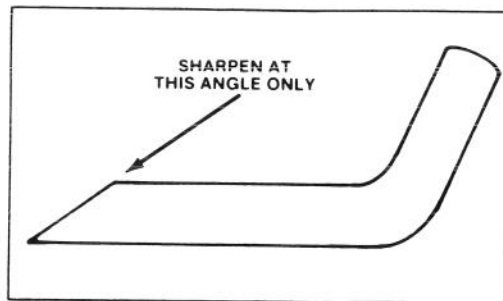

Figure 15
6. **SHARPENING BLADE** — Using a file, sharpen top side of blade and maintain original cutting angle (Fig. 15). The blade will remain balanced if same amount of material is removed from both cutting edges.